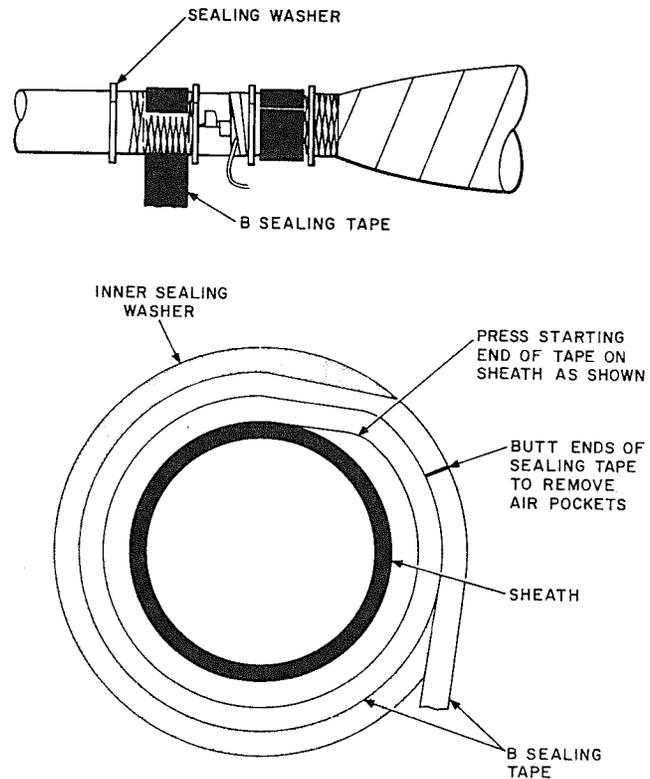

Fig. 14—Placing B Sealing Tape
3.22 Remove the splice case and check the position of the washers on either side of the inner sheath clamp with the marks on the cable sheath. Build up collars of B sealing tape on the inner and outer sheaths adjacent to the washers, *equal to or slightly larger* than the washers. Butt all joints between sealing tape strips. *The tape should be kept clean and should not be stretched. Do not handle tape with damp or oily hands* (Fig. 14).